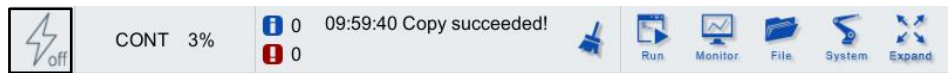

Figure 2-10 Enable status bar
- Step3. Continue to press down firmly. At this time, it is the third key position. The robot is enabled (a "click" sound is heard), and the lightning icon in the enable status bar (see Figure 2-10) is displayed as "⚡" (gray). The "Run" indicator light of the control cabinet goes out.
- Step4. When the enable key is in the second key position, release the key to return to the first key position, the robot is disabled, and the lightning icon in the enable status bar (see Figure 2-10) is displayed as "⚡" (gray).